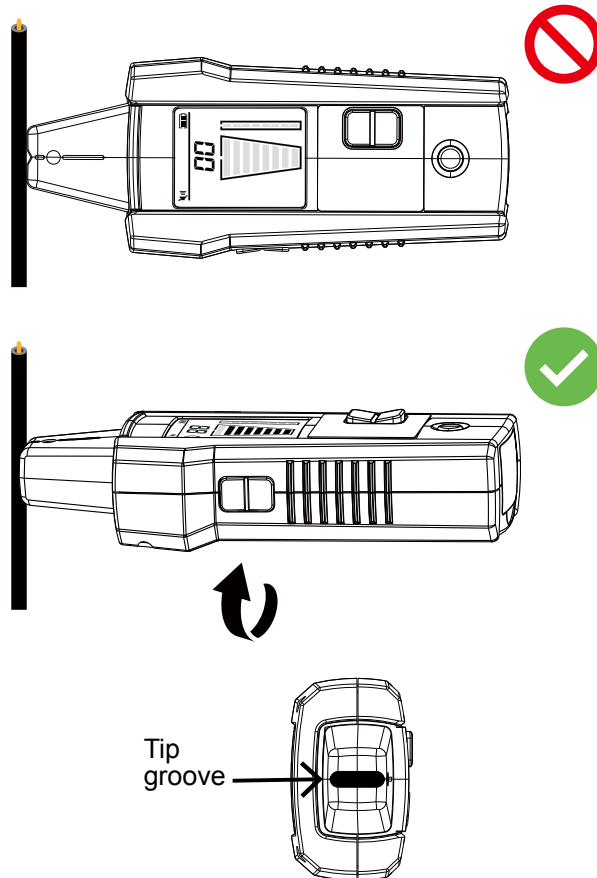

Figure 3.1d: Aligning the Tip Sensor groove
3. For best results while tracing Energized wires, align groove on the Tip Sensor with wire direction as shown in Figure 3.1d. Signal may be not detected if not properly aligned. To verify wire direction, periodically rotate the Receiver 90 degrees. Signal strength will be the highest when wire is aligned with the Tip Sensor groove.